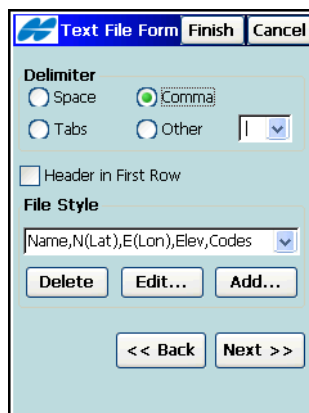

Figure 5-31. Text File Format
5. For Text file formats (the *Text File Format* screen, Figure 5-31), specify data format parameters in the file:
1. Tap **Add (Edit) Format** on the *Text File Format* screen (Figure 5-31 on page 5-21).
4. Tap **Save**. The combination will display in the *Select File Format* drop-down list on the *Text File Format* screen (Figure 5-31 on page 5-21).